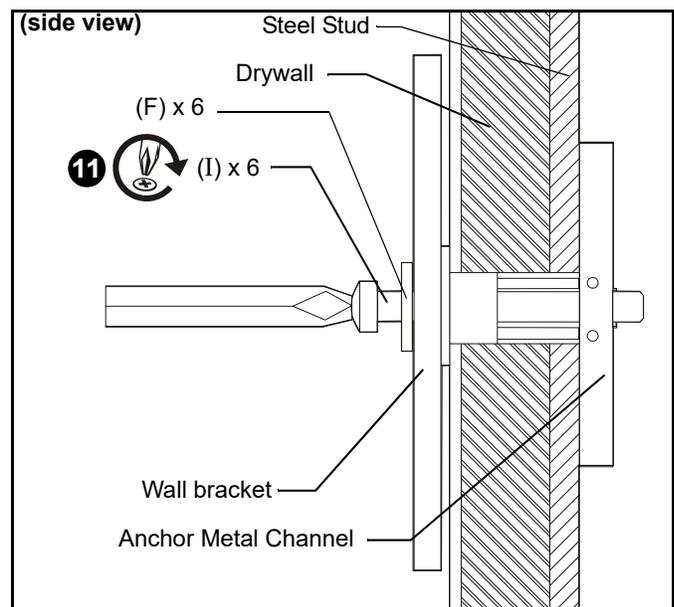

Figure 11
10. Place wall brackets of wall assembly (T) over installed anchors and align mounting holes in wall brackets with holes in anchors. (See Figure 11)
11. Insert 1/4-20 x 1-3/4" Phillips pan head screws (I) through 1/4" washer (F), corresponding mounting hole on wall bracket and into anchor (L) and tighten until flush against wall bracket. DO NOT over tighten! (See Figure 11)